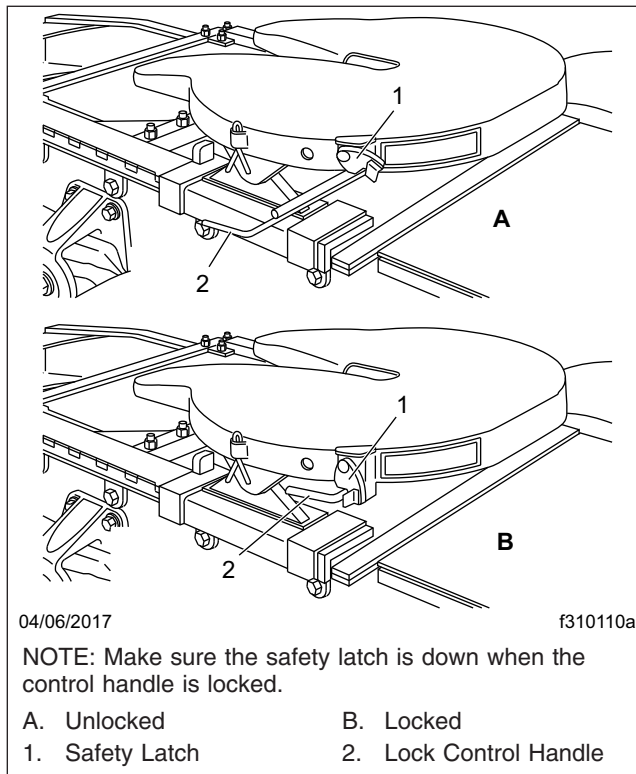
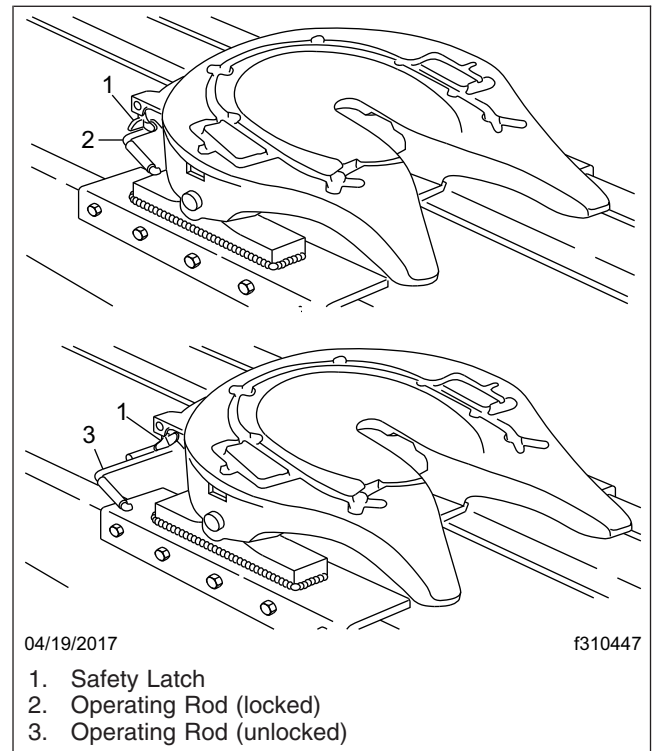

Fig. 18.2, Fontaine Locking Mechanism
Fig. 18.3, Holland Simplex SE Locking Mechanism
2. Ensure the fifth wheel jaw is fully open and the operating rod is in the unlocked position. See Fig. 18.2 or Fig. 18.3.
When lockup has occurred, the fifth wheel control handle moves to the locked position. Make sure that the safety latch is down over the lock control handle to hold the control handle in the locked position. (The safety latch will only rotate down if the operating rod is fully retracted in the locked position.) See Fig. 18.2 for Fontaine fifth wheels. See Fig. 18.3 for Holland fifth wheels.
- 6.1 **Fontaine:** Lift the safety latch and pull the lock control handle to the unlocked position. See Fig. 18.2.